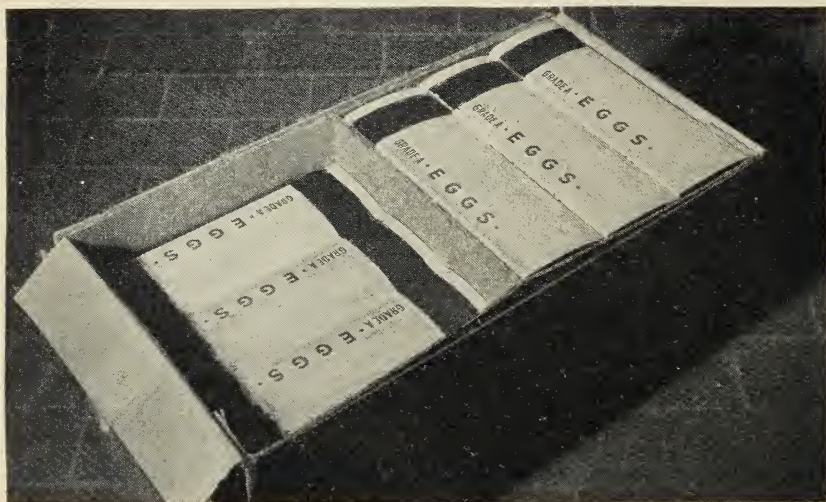

Figure 13.—Cartoned eggs usually make a firm pack in cases.
b. Place 30 two by six cushioned egg cartons firmly in the case to help to reduce damage in transit. The layers of cartons in the case should be alternated, the bottom layer placed with cartons lengthwise to the case, the next layer with the cartons extending across the width of the case, and so on up to top layer (fig. 13).